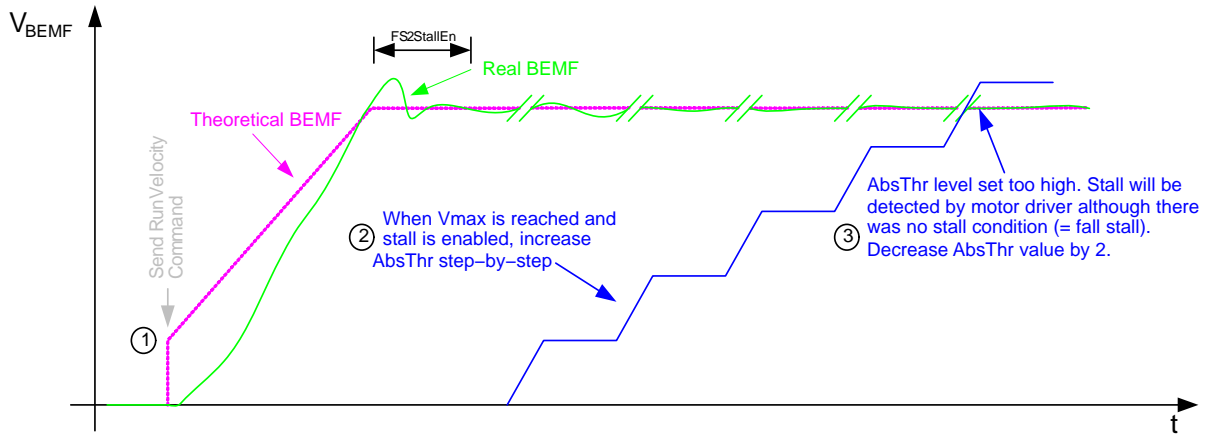

Figure 36. Define AbsThr For a Free Running Motor
Step 4a: When spinning at maximum velocity (V_{max}) increase AbsThr value by one. If the motor is still rotating, increase AbsThr again. Do this until the motor stalls without hitting an end position (= falls stall). If falls stall is detected, the AbsThr value is set too high. Decrease the (hexadecimal) value by 2 (if possible) to have a good AbsThr setting. See also Figure 36.